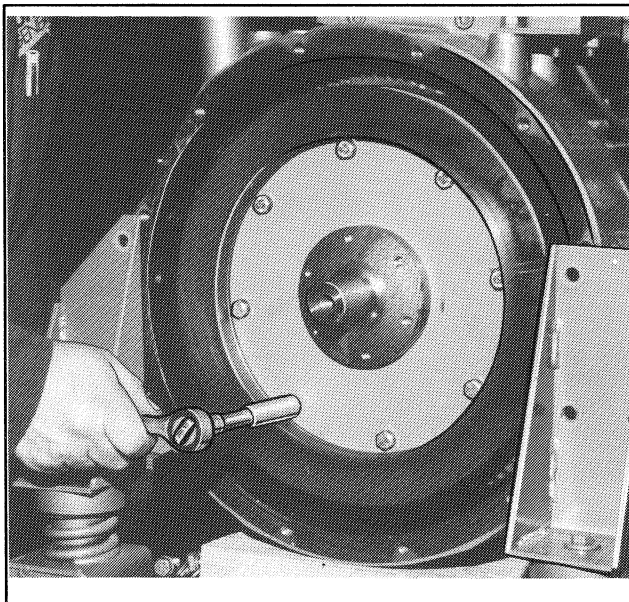

Figure 8-12. Removing Drive Disc
21. Remove bolts connecting drive disc to flywheel. Figure 8-12. Separate drive disc